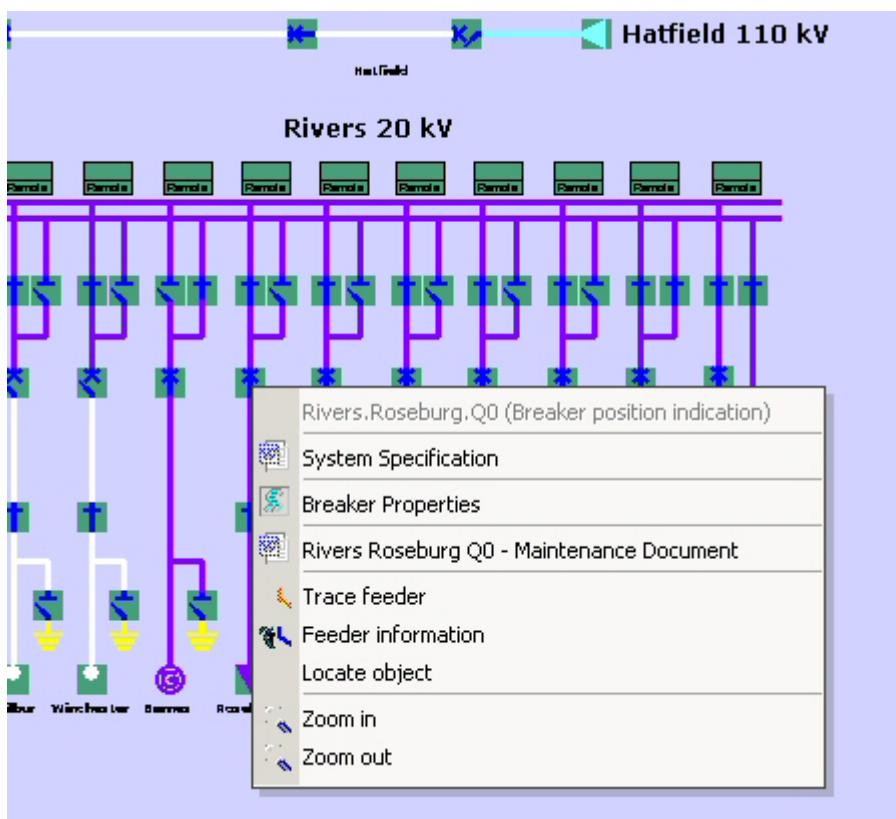

Figure 203: Context sensitive context menu
1. Right-click a symbol in the Process Display, see Figure 203.